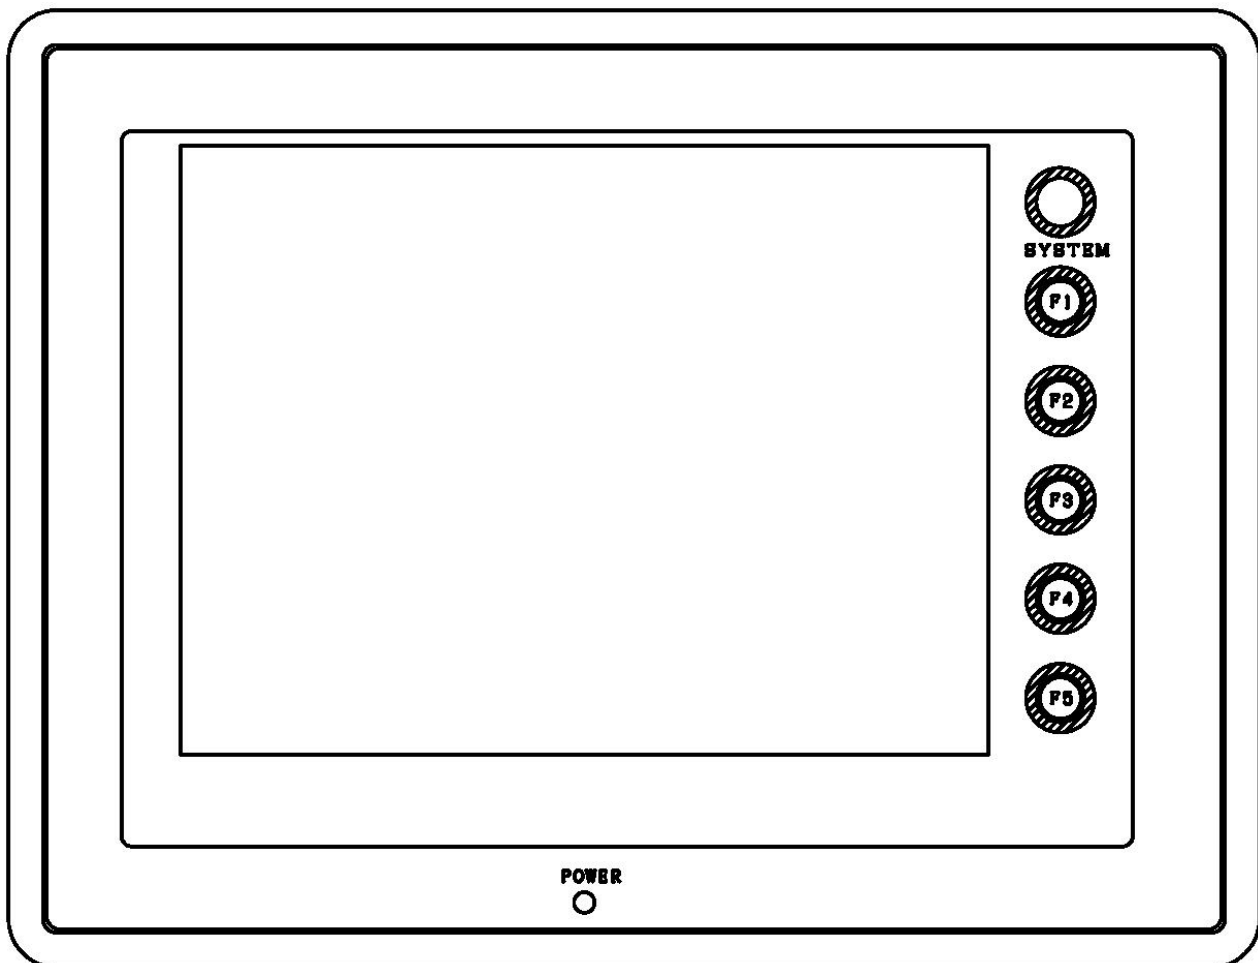

Fig 3-0
3.1 Touch Screen Identification (See Fig. 3-0)